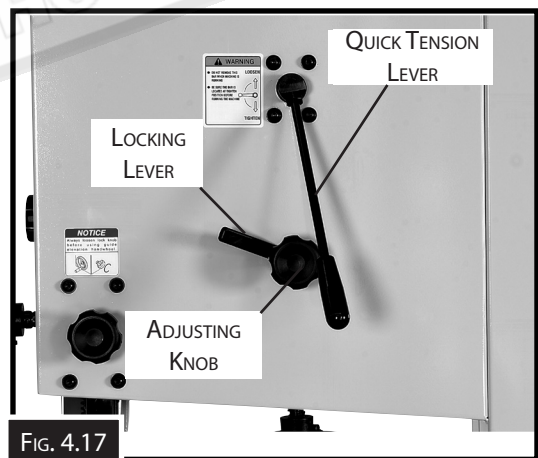

FIG. 4.17
6. Loosen the lock lever (Fig. 4.17) so that the blade tracking knob can rotate.
7. Manually rotate the upper wheel, taking care not to touch the blade. At the same time turn the adjusting knob (Fig. 4.17) clockwise or anticlockwise until the saw blade tracks centred on the rubber tyre.